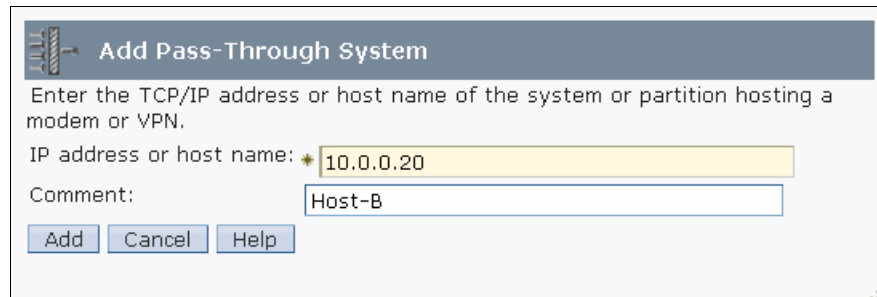

Figure 6-30 Add servers for pass-through access
3. In the “IP address or host name” field, enter either the IP address or the fully qualified host name for the server that you want to add, and a comment for the server, then select Add. See Figure 6-30.